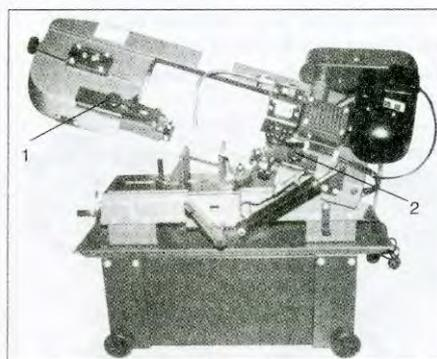

Fig.6
2. Loosen knob (1, Fig.6) and knob (2). Slide blade guide assemblies as close as possible to the material without interfering with the cut.
3. Tighten knob (1) and knob (2) and connect machine to the power source.